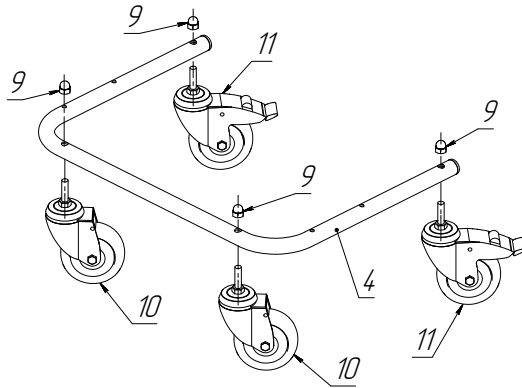

Figure 11.
Fasten the swivel rollers (10) and (11) with the cup nuts (9) on the bottom tube (4), as shown in Figure 11.